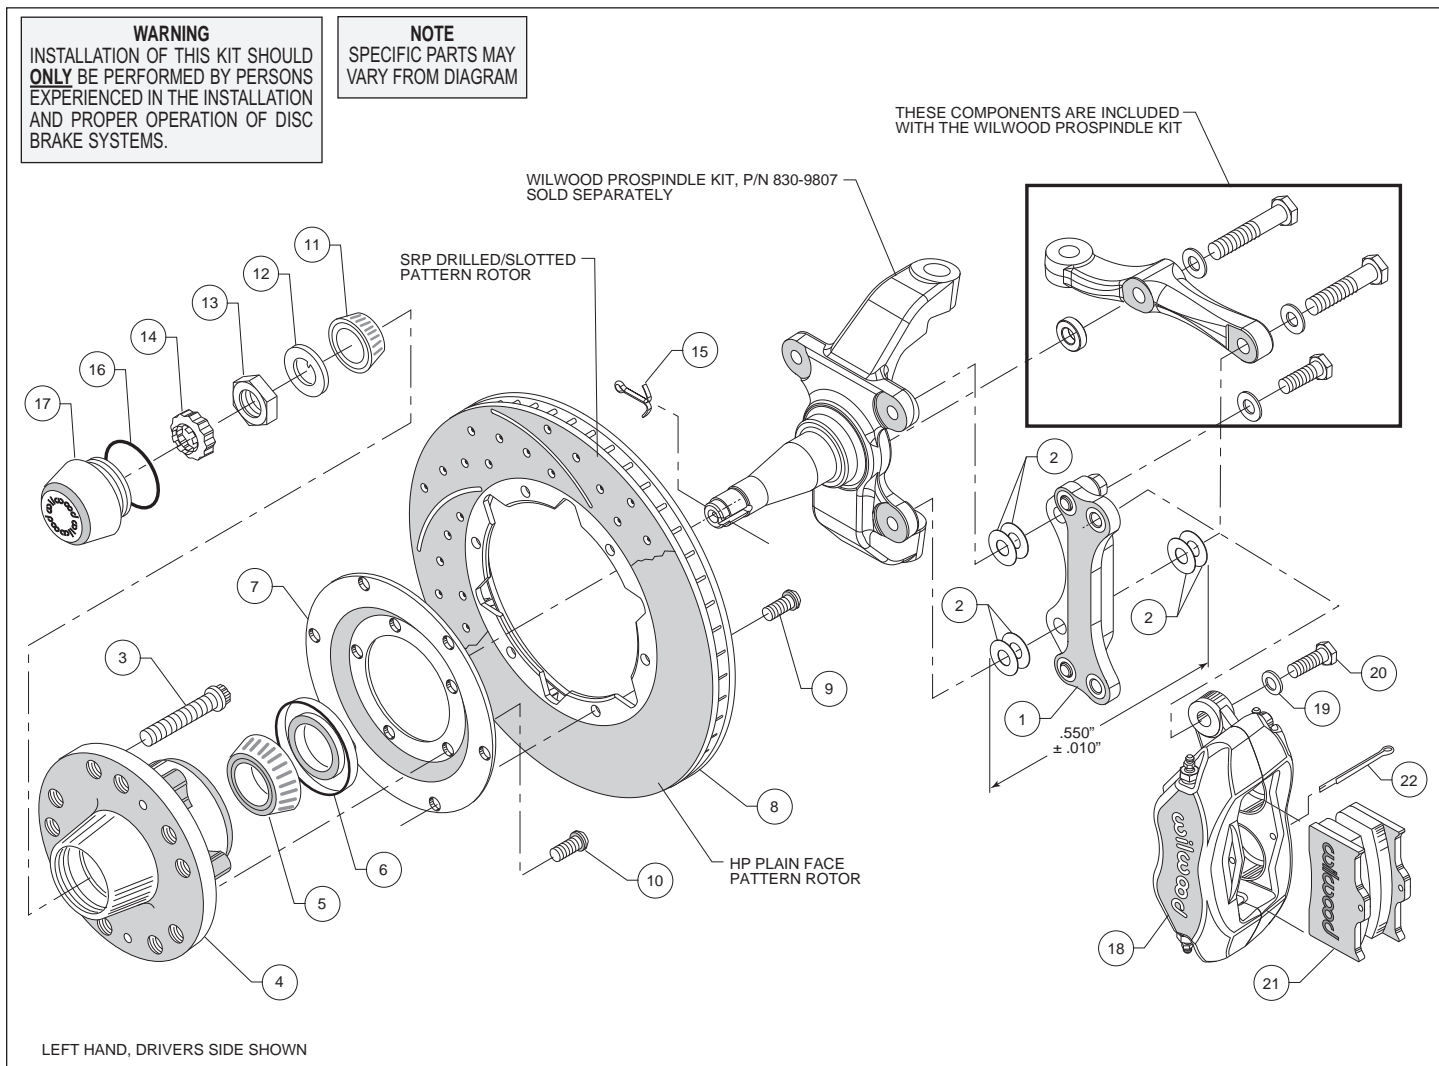

Figure 1. Typical Installation Configuration
- The caliper mounting bracket assembly (1) in conjunction with the Wilwood ProSpindle (P/N 830-9807, includes three mounting bolts, three washers, and a spacer, kit sold separately) should be installed first with clean, dry threads on the mounting bolts as follows:
- Install the bracket on the inboard side of the spindle by sliding the 1.25" long bolt from the ProSpindle kit through a flat washer, also from the ProSpindle kit, through the top hole of the caliper mounting bracket (1) and into the upper rear spindle mounting ear hole, do not tighten at this time. Use two thin shims (2) between the bracket (1) and spindle during initial trial fitting.
- Slide the 2.00" long bolt from the ProSpindle kit through a flat washer, through the rear (thinner end) hole on the steering arm, through two shim washers (2), through bottom hole of mounting bracket (1), through another two shim washers (2), and finally into the lower rear spindle mounting hole. The bracket (1) is positioned between the steering arm and the spindle for the bottom bolt installation. The bracket and shim washers for the lower rear mounting must be a thickness of $.550 \pm .010$ ". Again, do not tighten.
- Finish installing the steering arm assembly by sliding the 2.25" long bolt through flat washer, then through the front (thicker end) hole of the steering arm. Place the .25" thick spacer between the steering arm and the backside of the spindle. Snug all three bolts. The bracket must tighten squarely against the inboard side of the caliper mounting bosses on the spindle body. Inspect for interference from casting irregularities, machining ridges, burrs, etc. **NOTE:** Be sure the heads of the caliper bracket (1) insert nuts are facing outward toward the wheel.
- Install wheel studs (3) into the hub (4). Torque to 77 ft-lb. **NOTE:** There are two lug patterns of five holes each in the hub (5 x 4.50 and 5 x 4.75). Make sure of the correct hole pattern for the wheel application before installing the studs into the hub.
- Orient the rotor (8) and the rotor adapter (7) as shown in Figure 1. Attach the rotor to the adapter using bolts (9). Using an alternating sequence, apply red *Loctite*® 271 to the threads, and torque to 25 ft-lb.
- Mount the adapter/rotor assembly (7/8) to the hub (4) using bolts (10), as shown in Figure 1. Using an alternating sequence, apply red *Loctite*® 271 to the threads, and torque to 45 ft-lb.
- Pack the large inner bearing cone (5) with high temperature disc brake bearing grease (available from your local auto parts store) and install into the backside of the hub (4).
- Install the grease seal (6) by pressing into the backside of the hub (4).
- Pack the small outer bearing cone (11) with high temperature disc brake bearing grease and install into front of hub (4). Slide the hub assembly (4, 5, and 6) with outer bearing cone (11) onto the spindle. Secure using spindle washer (12), adjusting nut (13) and nut retainer (14). secure to spindle using cotter pin (15). Adjust bearing using a 12" wrench to tighten the adjusting nut while turning the rotor. When the rotor binds slightly, all the bearing parts are seated properly. Back of the nut 1/6 to 1/4 of a turn or enough to allow 0.001 to 0.007 end play. Lock the nut with a new cotter pin. **WARNING:** Failure to back off the adjusting nut may cause the bearing to run hot and be damaged, which could cause the wheel to lock or come off during operation, creating a risk of serious bodily harm.
- Install the o-ring (16) and the dust cap (17) onto the hub (4). Friction created by the o-ring (16) on the dust cap (17) keeps it from unscrewing on its own.